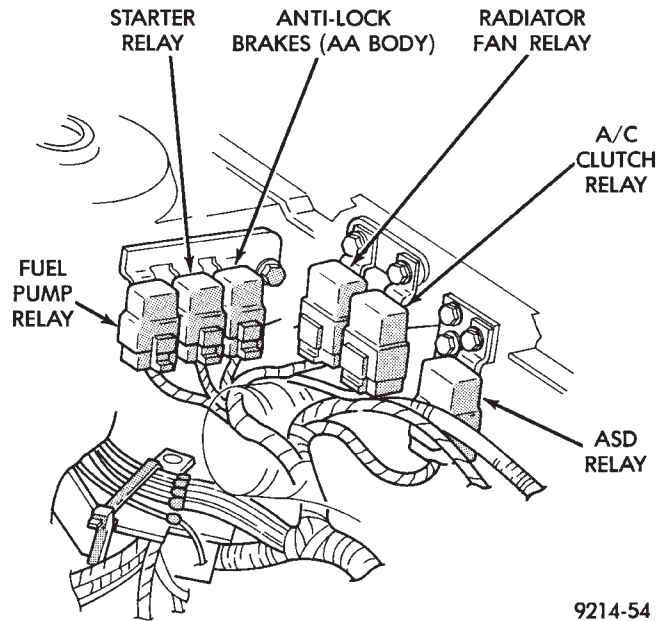

Fig. 20 Relay Identification—AA Body
(28) Check the air conditioning, starter, ASD, fuel pump and radiator fan relay connections (Figs. 20, 21, and 22).
(29) Check battery cable connections.
(30) Check hose and electrical connections at fuel pump. Ensure connector is making contact with terminals on pump.